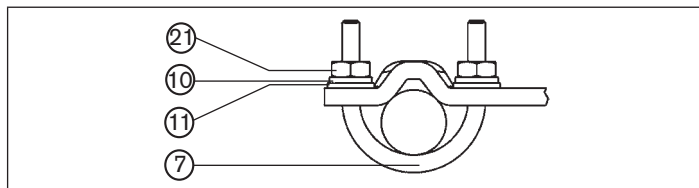

Fig. 11: Attach positioner with mounting bracket; for actuators with columnar yoke
- Attach mounting bracket to the columnar yoke with the U-bolt ⑦, washers ⑪, circlips ⑩ and hexagon nuts ⑫ (see "Fig. 11").